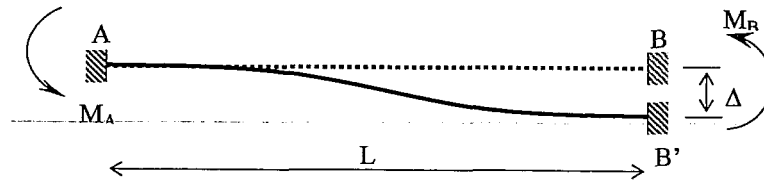

Fig. 3(a)
- a.) In the fixed beam AB shown in the Figure 3(a), the support B settles by ' $\Delta$ '. Using Moment Area Method show that the support moments  $M_A = -M_B = -6EI\Delta/L^2$ , where  $EI$  is the flexural rigidity of the beam.